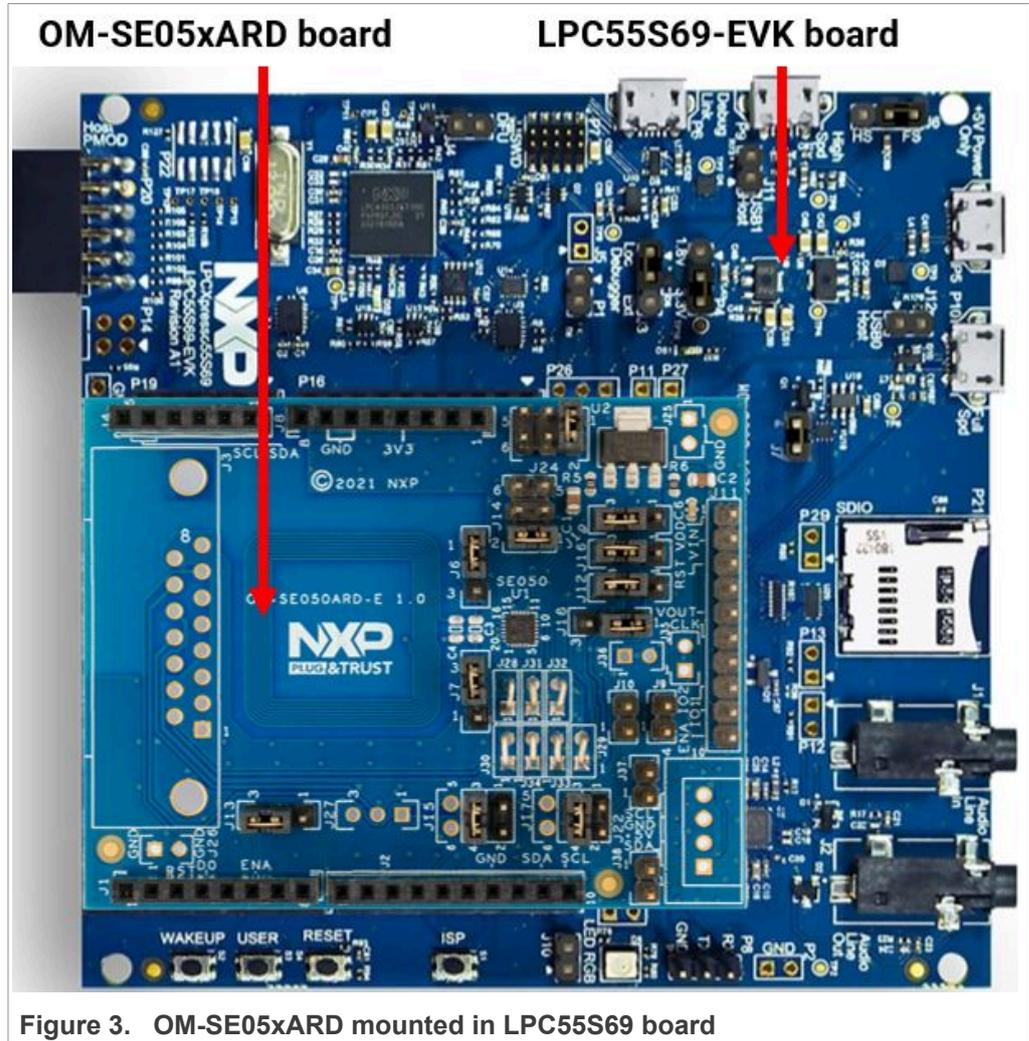

Figure 3. OM-SE05xARD mounted in LPC55S69 board
4. Double check that the two boards are connected as shown in Figure 3: